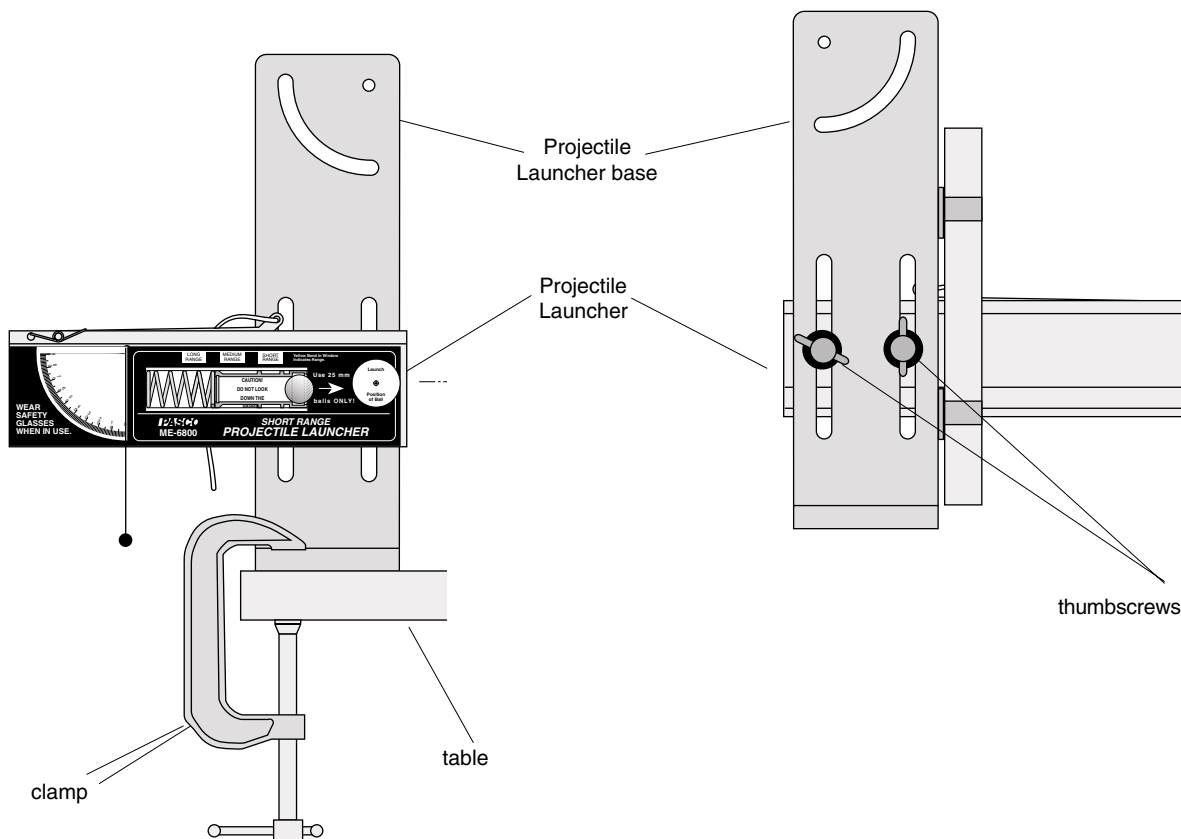

Figure 1: Projectile Launcher Setup
3. Mount the Projectile Launcher in a horizontal position, using the two lower slots in the Projectile Launcher base, as shown in Figure 1.